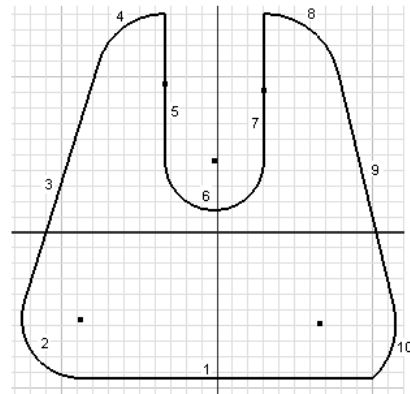

Figure 3-55 Profile with geometries numbered
- Start a new metric template and draw the outer loop of the sketch, refer to Figure 3-55.
- Using the **Line** tool, draw the profile, as shown in Figure 3-55.
As evident from Figure 3-55, some of the constraints such as tangent and equal are missing in the sketch. Therefore, you need to add these constraints manually to the sketch. You can view the constraints applied on various geometries by using the **Show Constraints** tool.
1. In Figure 3-55, the **Tangent** constraint is missing between line 1 and arc 10. To add this constraint, choose the **Tangent** tool from the **Constrain** panel of the **Sketch** tab; you are prompted to select the first curve. Select arc 10 as the first curve; you are prompted to select the second curve. Select line 1 as the second curve. Similarly, add this constraint to all places in the sketch wherever it is missing.